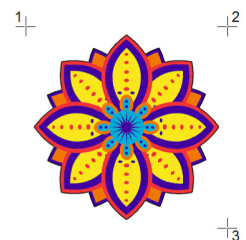

Fig. 23
14. Position the laser over the cross (1) as indicated in the Print & Cut Wizard. Follow the onscreen guide to complete the process (See Fig. 23).